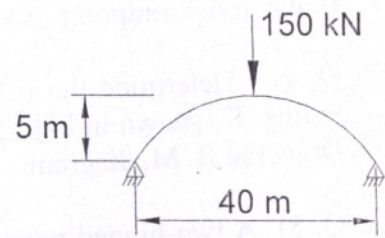

Fig. Q. 5
Q. 5) A two-hinged parabolic arch as shown in Fig. Q. 5 has a span of 40 m and a central rise of 5 m. It carries a single concentrated load of  $150 \text{ kN}$  at the crown. The moment of inertia at any section is equal to  $I_c \sec \theta$ ,  $I_c$  being the moment of inertia at the crown and  $\theta$  the slope at the section. Determine the horizontal thrust at the supports and the B.M. at the crown, neglecting the effect of rib shortening. Draw the B. M. diagram.